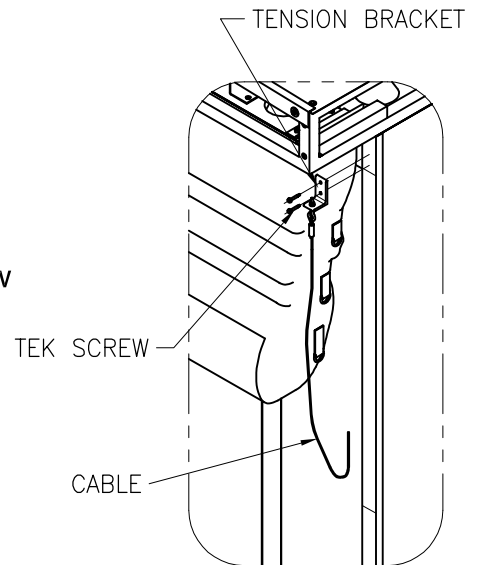

fig. 2
- b. Align bottom of tension bracket to top line and tek screw into place (see fig. 2).